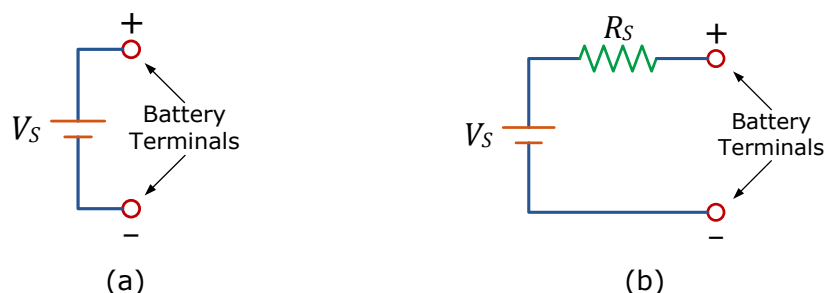

Figure 3.1: Equivalent circuits of a battery: (a) Ideal model, and (b) model with internal resistance.
The two battery models that will be considered are illustrated in Figure 3.1. Figure 3.1(a) shows the **ideal model for the battery**, being represented as a voltage source V_s that is independent of any variable, such as temperature, external load, etc. This model may be used in circuit analysis where imperfections will not affect the analysis of the circuit. The **equivalent circuit of the battery** includes an **internal resistor** R_s , as shown in Figure 3.1(b). This resistor accounts for the voltage drop at the terminals of the battery as current is drawn from the battery and is a significant improvement to the battery model. V_s and R_s are affected by the state of the battery, i.e., they can change as the battery discharges or gets older. They can also depend on the amount of current being drawn from it. Therefore, these equivalent circuit components will be considered at a specific operating point.
- 4 Refer back to Figure 3.1(b) and draw the equivalent circuit of the battery showing the value of the components you obtained in the previous question. From the equivalent circuit values just derived for your battery, estimate the short circuit current that should be available from the battery.